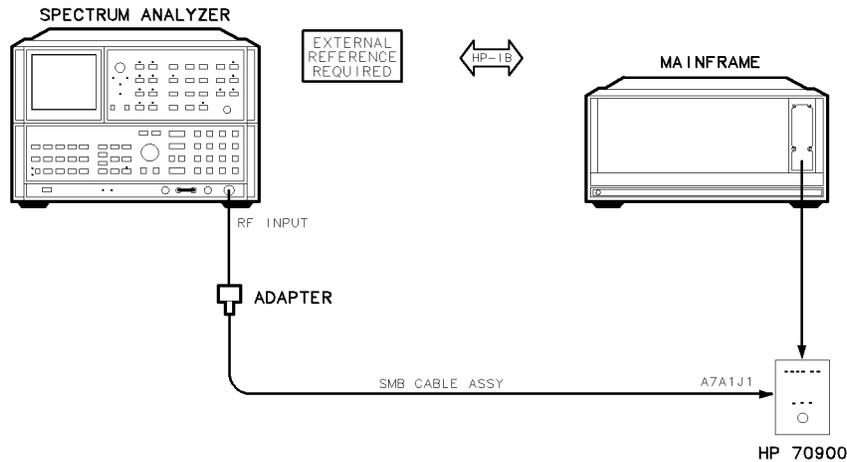

Figure 6-17. Equipment Setup for Adjustment 09. FFS Reference Null
1. Connect the equipment as illustrated in Figure 6-17. Remove W1 from A7A1 FFS phase lock loop (J1), then connect the spectrum analyzer to this jack. Refer to Chapter 10 for the location of A7A1 FFS phase lock loop (J1).